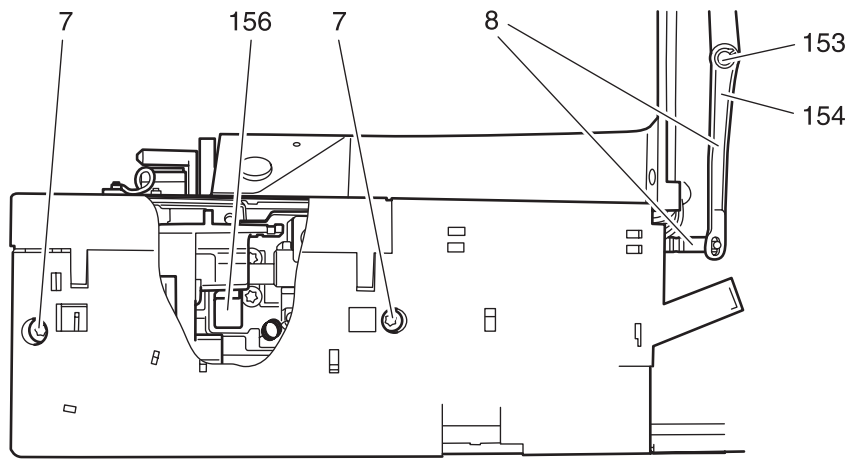

Fig. 100
- Remove Seeger circlip ring 153 (fig. 100).
- Remove buttonhole sensor 156 complete with spring (fig. 100).
- Fit lowering lever 154 (fig. 100).